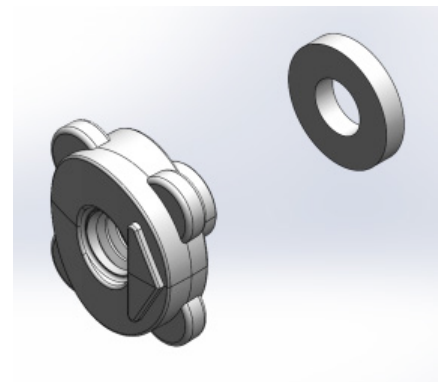

Figure 3
10. Install the new Knob Screws, Threaded Nuts, and the Compression Washers through the Hinge area. The Compression Washers are installed over the ends of the Threaded Nuts. The Threaded Nuts have an arrow that points toward the front of the helmet before Knob Screws are installed. See Figure 3. The Knob Screws are hand tightened to ensure the compression washer seals against the inside of the helmet. Note: The sealed compression washers are important to ensure the holes in the helmet are water-tight and can pass the Class E dialectic testing in accordance with the ANSI standards.